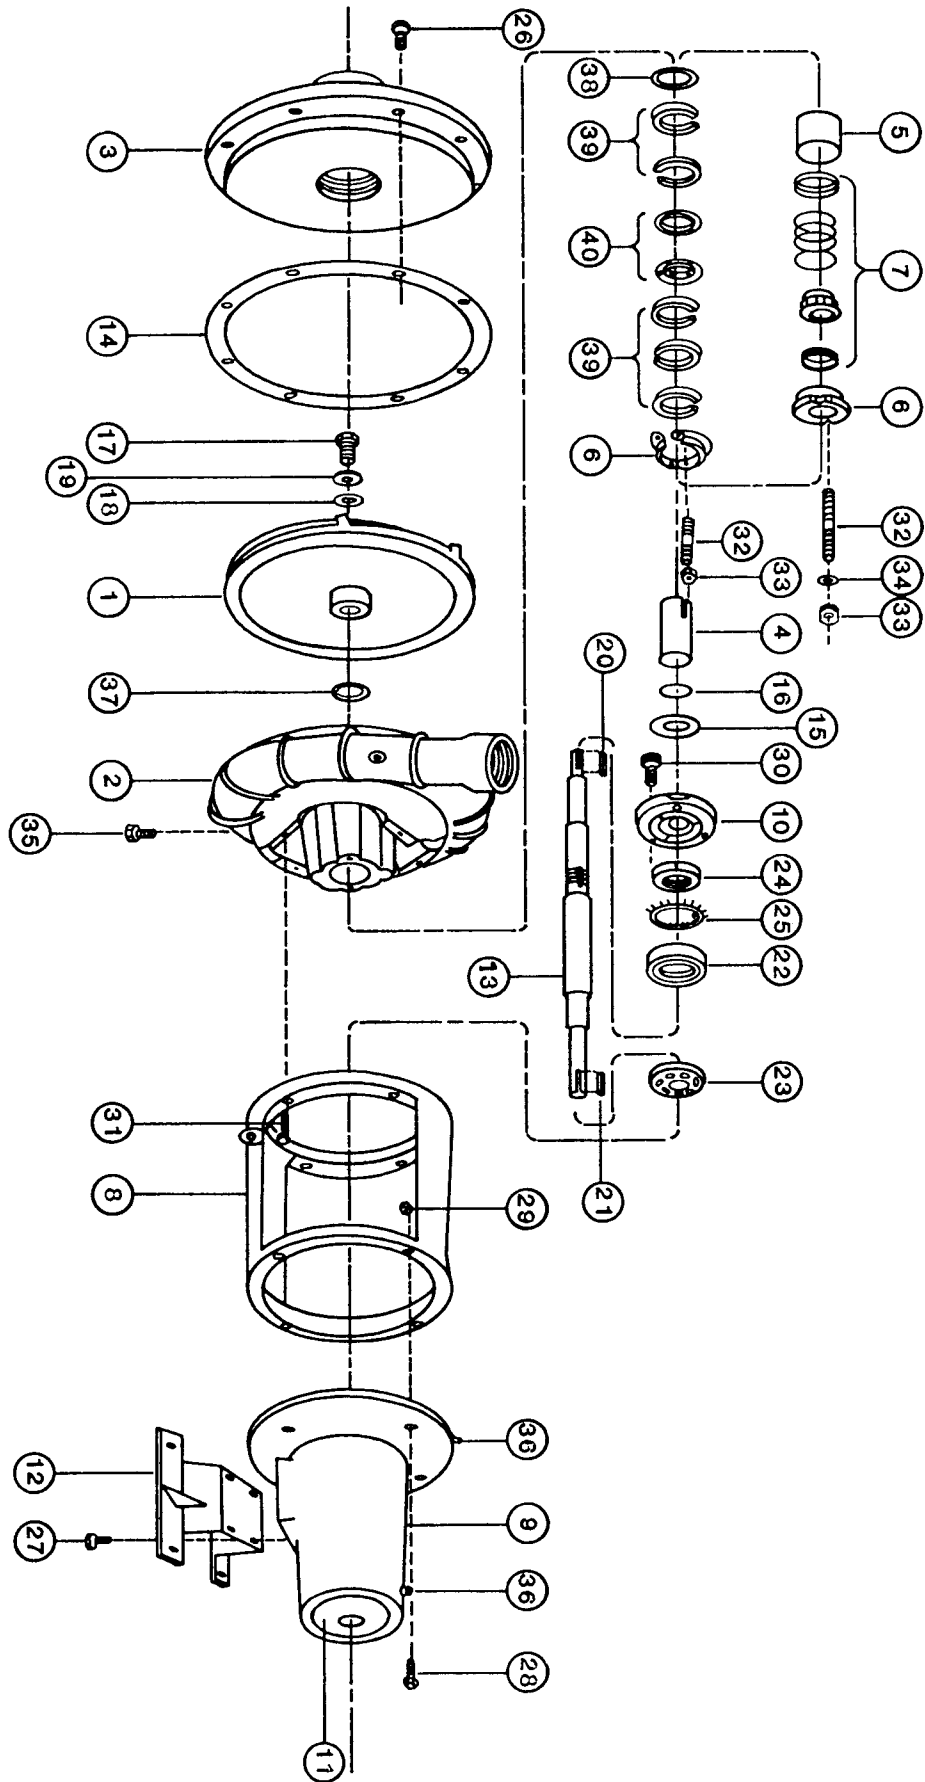
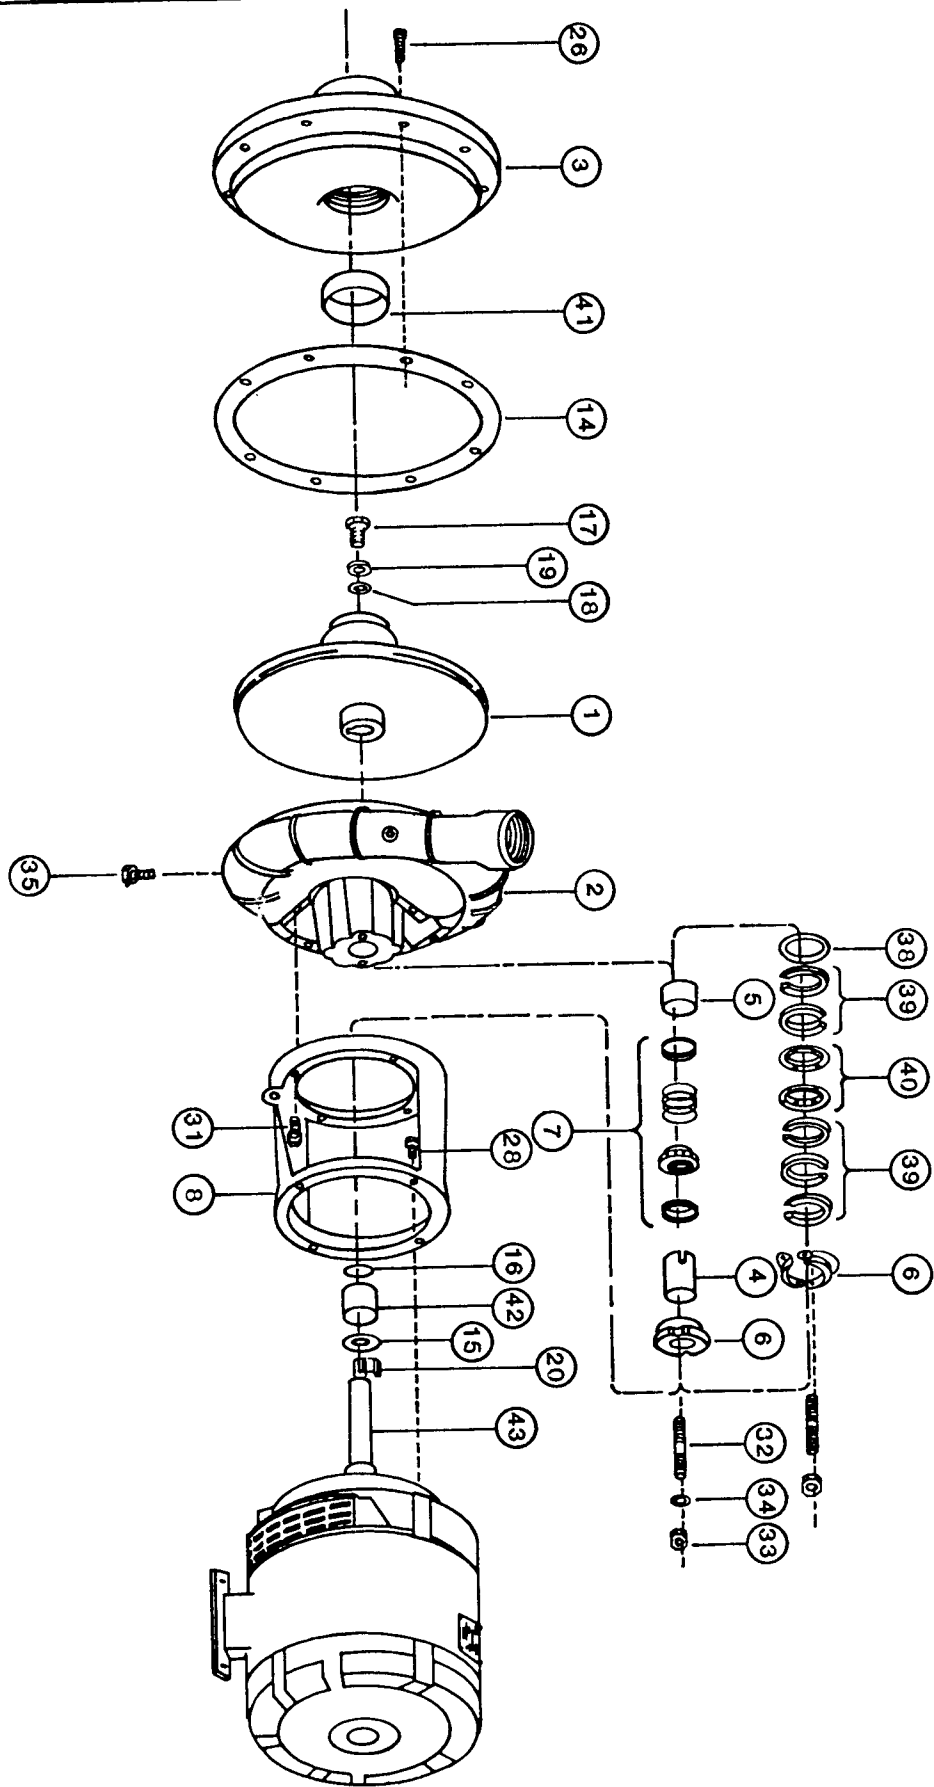

FIGURE 2. EXPLODED VIEW FOR FRAME MOUNTED L & H HORIZONTAL PUMP
FIGURE 3. EXPLODED VIEW FOR CLOSE COUPLED L & H HORIZONTAL PUMP
- a. If no rubbing noise is present, the clearance between impeller and suction head will be greater than 0.020 inches, once casing gasket (14), which is 0.025 inch thick, is placed between suction head and casing. To remedy this, a 0.020 inch shim (37) is placed behind impeller to bring impeller out toward suction head. To install shim (37), remove nuts (33) and washers (34). Pull gland (6) away from casing (2). This will relieve mechanical seal spring tension and keep impeller from popping off shaft. Remove impeller capscrew (17), impeller washers (18 and 19), and impeller (1). Install impeller shim (37) on shaft. Repeat steps 14, 16 and 17a until proper clearance is achieved.
- b. If a rubbing noise is present, the clearance between impeller and suction head is less than 0.010 inches. To remedy this, add casing gasket (14) on suction head. Repeat step 17b until the proper clearance is achieved (refer to caution preceding step 14).
18. Install casing gasket(s) (14) on suction head. Install suction head (3) and secure to casing with capscrews (26).
H. REPLACEMENT OF WEAR RING ON PUMP EQUIPPED WITH ENCLOSED IMPELLER. A pump equipped with an enclosed impeller has a replaceable wear ring inserted in the suction head. See part number 41 in figure 3.
To replace wear ring, use the following procedure (refer to figure 3 for location of parts followed by an item number):
This section contains listings of parts and corresponding exploded view drawings. Table 5 contains the parts listing for frame mounted pumps. Figure 2 shows location of parts listed in table 5. Table 6 contains the parts listing for close coupled pumps. Figure 3 shows location of parts listed in table 6.